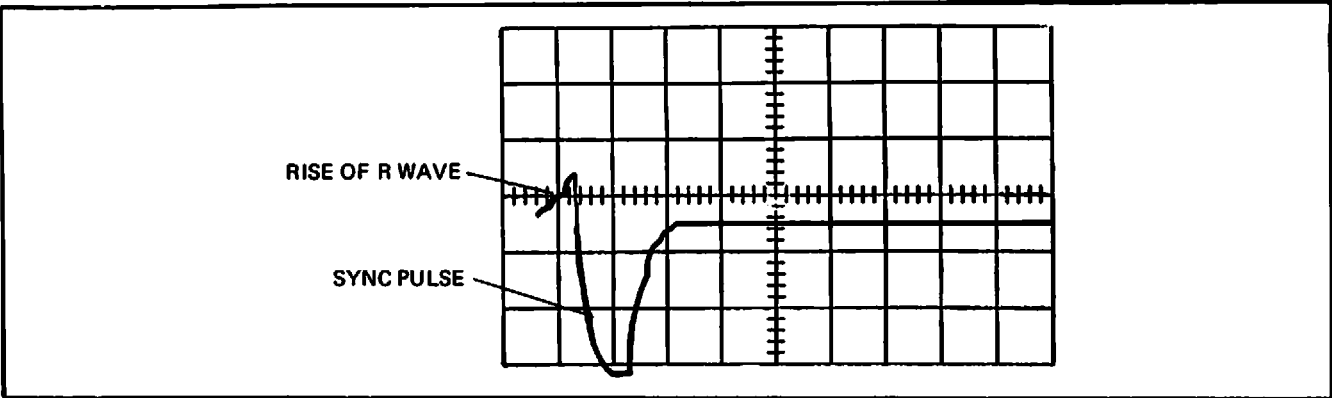

Figure 3-28. Sync Pulse Superimposed on R Wave.
8. Press the SYNC/DEFIB switch to the SYNC position and release. The Sync/Marker pulse should appear within 20 ms of where the peak of the R-wave had been displayed. The Sync pulse obscures all but the first rise of the R-wave display as shown in Figure 3-28.